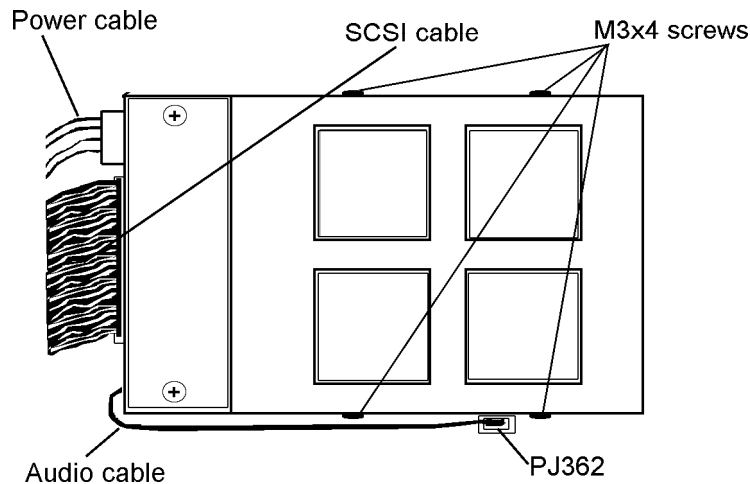

Figure 4-23 Disconnecting Cables from the CD-ROM Drive
4. Disconnect the **audio**, **SCSI**, and **power cables** from the drive, then lift the drive out of the bay (Figure 4-23).
5. Place the drive in the computer, then connect the **audio**, **SCSI**, and **power cables** to the **CD-ROM drive** (Figure 4-23).